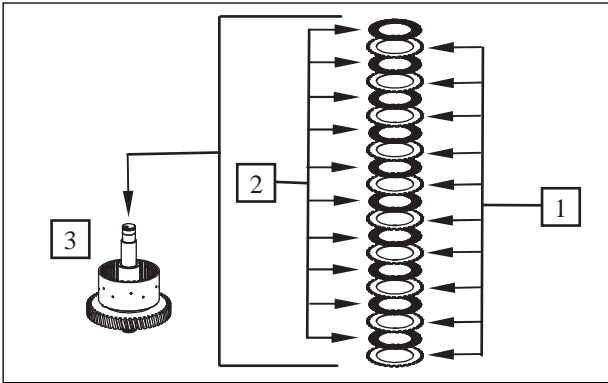

Figure 9
Install outer and inner disks alternately into the disk carrier (3) as shown in Figure 9.